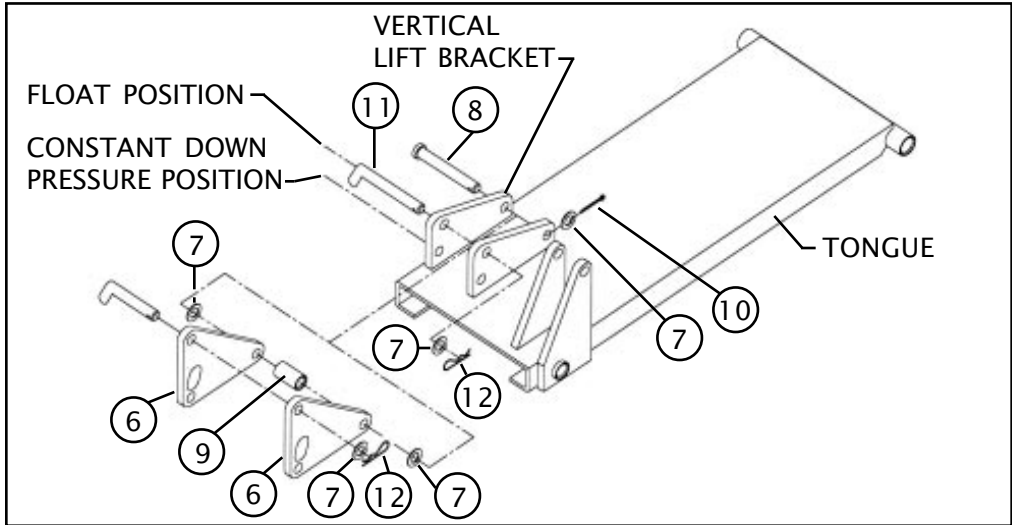

FIGURE 4
c) Position the bottom front hole of one of the independent brackets (Fig. 4, Item 6) on the inside of the left vertical lift bracket of the tongue with a 1/2" ID flat bushing (Fig. 4, Item 7) between the two. Insert clevis pin (Fig. 4, Item 8) into the holes, align the independent bracket bushing (Fig. 4, Item 9) and insert the clevis pin through the bushing, align the other independent bracket and insert the clevis pin, align a 1/2" ID flat bushing (Fig. 4, Item 7) between the right independent bracket and the right vertical lift bracket of the tongue and insert the clevis pin through the assembly, place a 1/2" ID flat bushing (Fig. 4, Item 7) over the end of the clevis pin and secure with a 1" cotter pin (Fig. 4, Item 10).
1. For the loader bucket to float over the terrain Insert bent arm pin (Fig. 4, Item 11) into the top holes of the vertical lift brackets of the tongue, penetrating the slots of the two independent brackets, place a 1/2" ID flat bushing (Fig. 4, Item 7) over the end of the bent arm pin and secure with a 1" hair spring cotter pin (Fig. 4, Item 12).
2. For the loader bucket to provide constant down pressure Insert the bent arm pin (Fig. 4, Item 11) into the back bottom hole of the vertical lift brackets of the tongue penetrating the back bottom holes of the two independent brackets, place a 1/2" ID flat bushing (Fig. 4,
Item 7) over the end of the bent arm pin and secure with a 1" hair spring cotter pin (Fig. 4, Item 12).